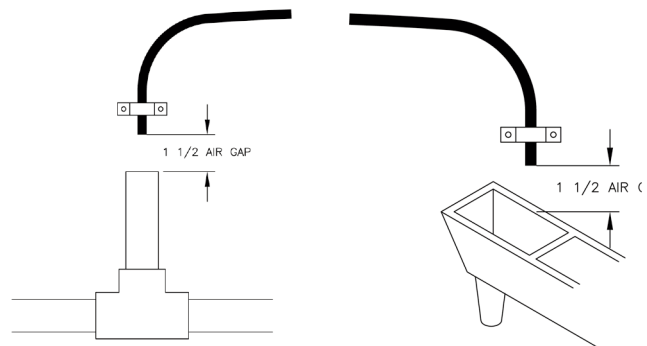

Figure 7: Also be sure drain line has an air gap.
2. If the drain line is a 5/8" flexible poly tube, slide the nut onto the poly tube, then place the poly tube insert into the end of the poly tube and tighten the nut on to the 3/4" drain line fitting. The nut is only designed for use with flexible poly tube. Use other nuts if attaching different materials. Run line to a drain. Making sure you have a 1 1/2" airgap. You may use a floor drain, standpipe or any open type drain (see Fig 7).